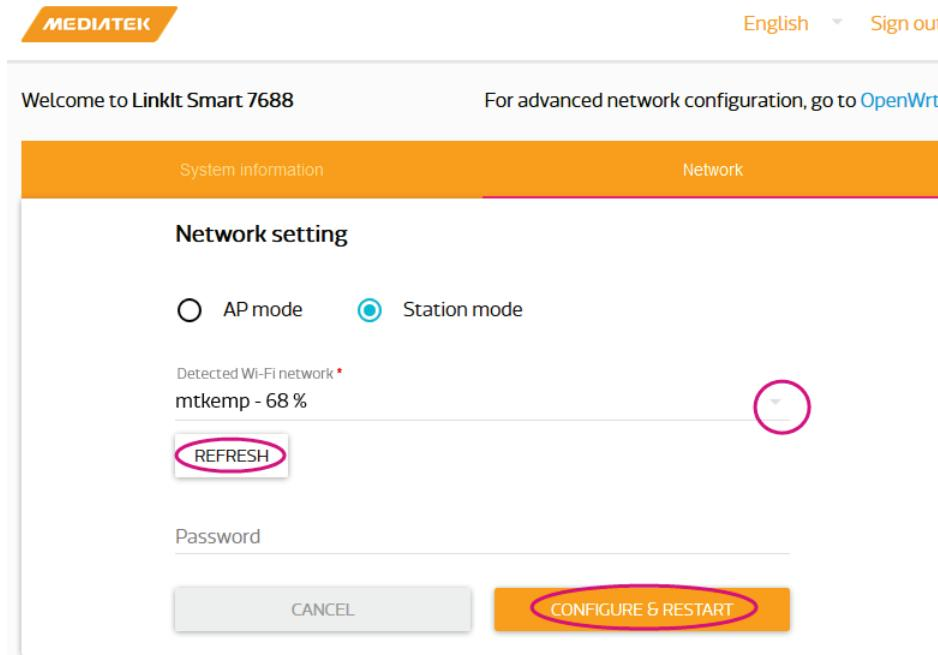

Figure 21 Changing to Station mode in Web UI
- 2) Select the **station mode** and click the **Refresh** button or **downward arrow** on the right to find the AP to connect to. After you've selected the AP, enter password if required. Click **Configure & Restart** button to finish as shown in Figure 21.